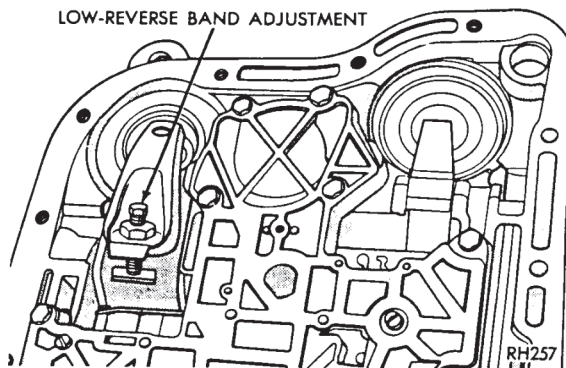

Fig. 5—Low-Reverse Band Adjustment
(1) Raise vehicle, drain transmission fluid from loosened oil pan and remove oil pan.
(2) Loosen adjusting screw lock nut and back off lock nut approximately five turns (Fig. 5). Test adjusting screw for free turning in the lever.
(3) Using wrench, Tool C-3380-A, tighten band adjusting screw to 72 in. lbs. (8 N-m).
(4) Back off adjusting screw the number of turns listed in "Specifications". Hold adjusting screw in this position and tighten lock nut to 25 ft. lbs. (34 N-m).
(5) Reinstall oil pan using a new gasket. Tighten oil pan bolts to 150 in. lbs. (17 N-m).
(6) Fill transmission with "MOPAR ATF PLUS" (Automatic Transmission Fluid) type 7176.